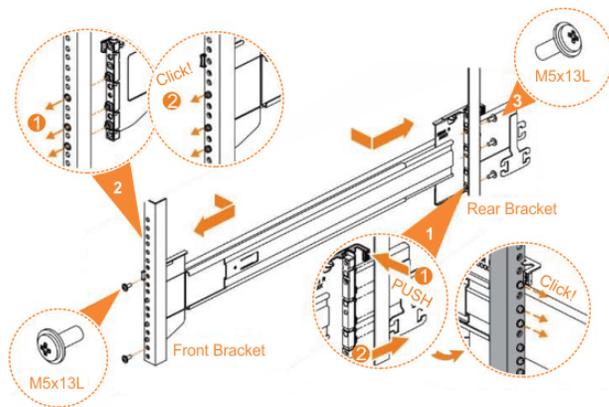

Figure 52. Installing the rail assembly to the rack frame
6. Use the M5 screws to install the outer rail member and bracket assembly to the rack, as shown in Figure 52 on page 92.